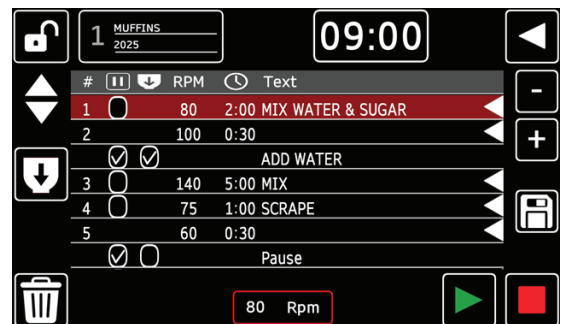

Figure 14-4.
4. Select the “lock” button and use the PIN code 2345 to unlock the recipe for updates.(Figure 14-4).
6. Select the “+” symbol to add a line # to a recipe (Figure 14-4).